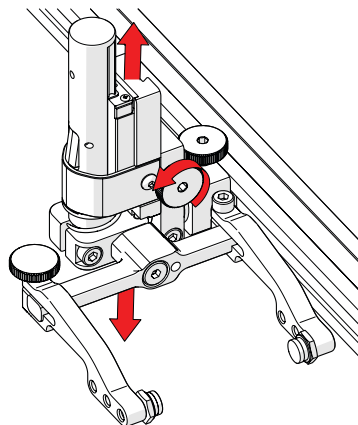

Fig. 105 - Vertical adjustment
2. The vertical adjustment knob allows the vertical probe holder height adjustment (Fig. 105).